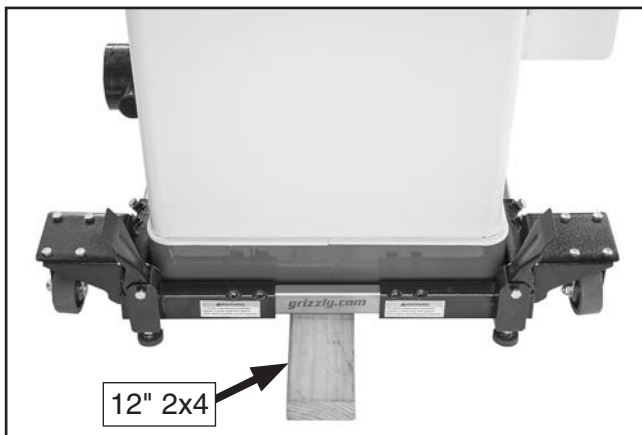

Figure 17. Rear brackets and rail placed around back of machine, which is raised up with a wood block.
- With the help of an assistant, lift rear side of machine, then place a 2x4 block under machine (see **Figure 17**).
- Slide each of the rear brackets onto remaining side rail, and slide assembly into rail-bracket assembly from **Step 6**. Adjust fit until rail-bracket assembly rests against machine body (see **Figure 17**).